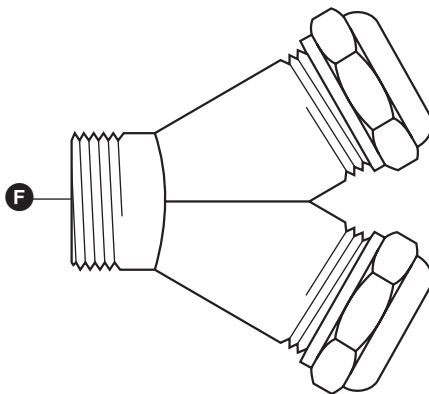

Fig. 16
- The supply lines must go through the twin PG thread into the terminal box, **Fig. 16**.